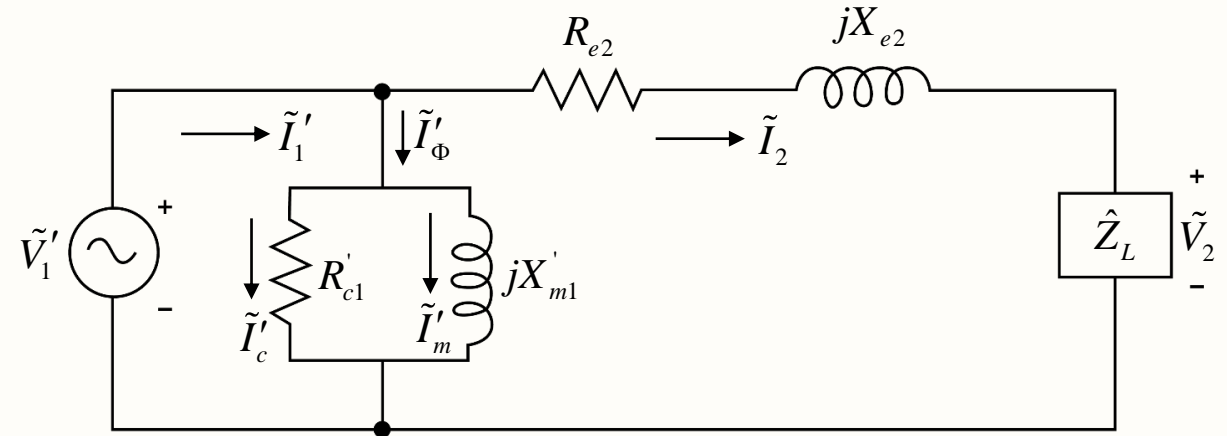

Fig. 25. Approximate equivalent circuit referred to the secondary.
- ❖ Similarly, the circuit may be referred to the secondary side as shown Fig. 25, where